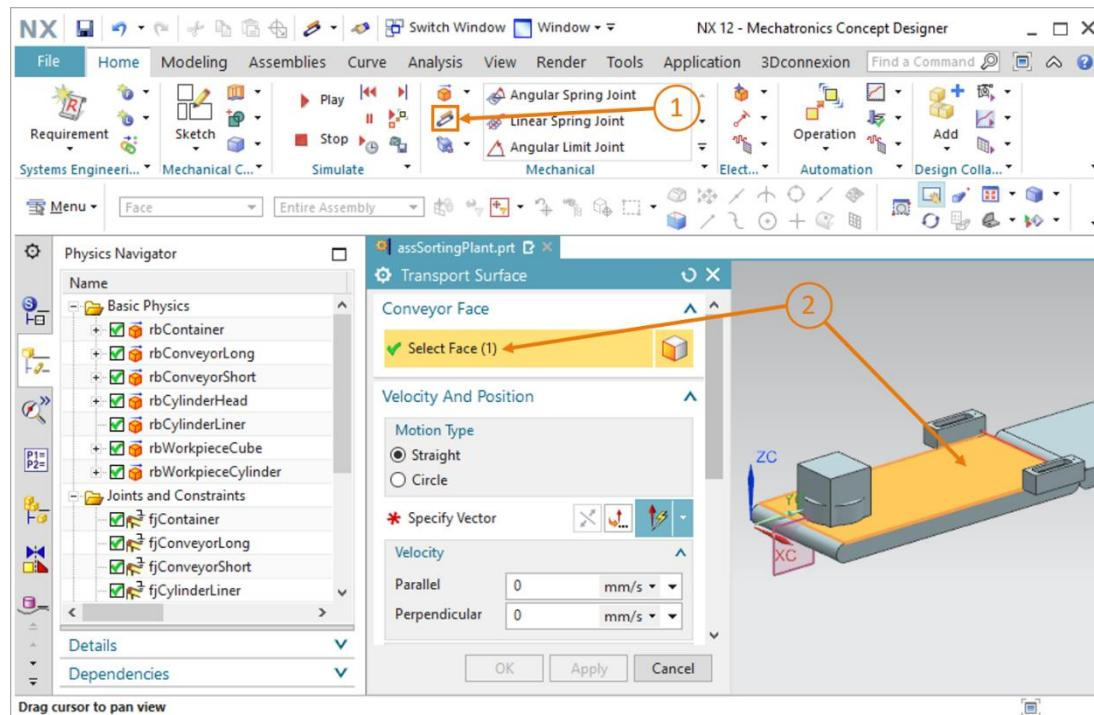

Figure 42: Creating a transport surface for the conveyorShort conveyor belt – Selection of conveyor face
- Open the "Transport Surface" command via the "Mechanical" menu group or the Command Finder. You start by selecting the conveyor faces of a body in the "Conveyor Face" group. Use the **planar surface of the conveyorShort conveyor belt** for this, as shown in Figure 42, step 2.